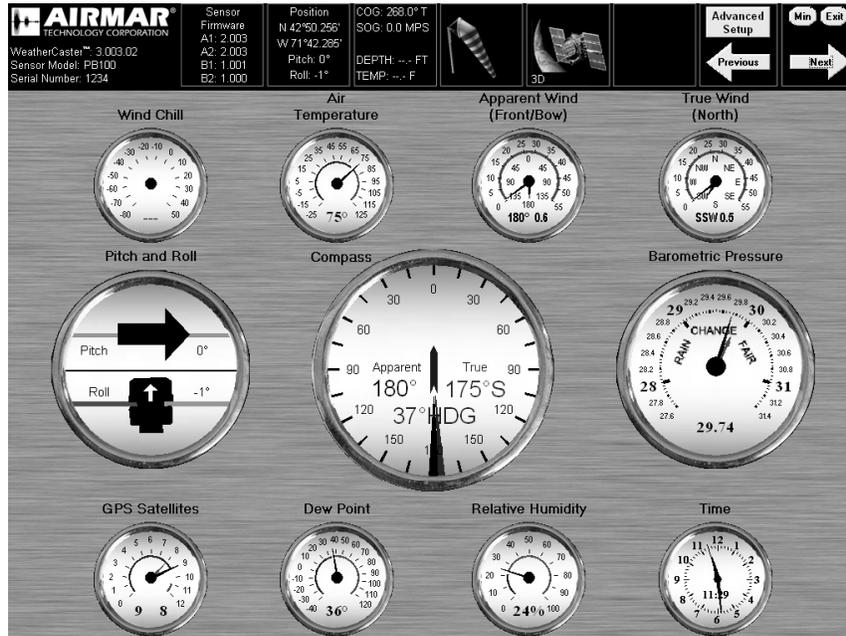

Figure 25. Analog Gauge Screen
- Analog Gauge Screen—This screen displays the data being sent from the sensor(s) on gauges in both analog and digital formats (see Figure 25).
Gauges display the data being sent from the sensor(s) (see Figure 25). Each gauge displays data in both analog and digital formats.